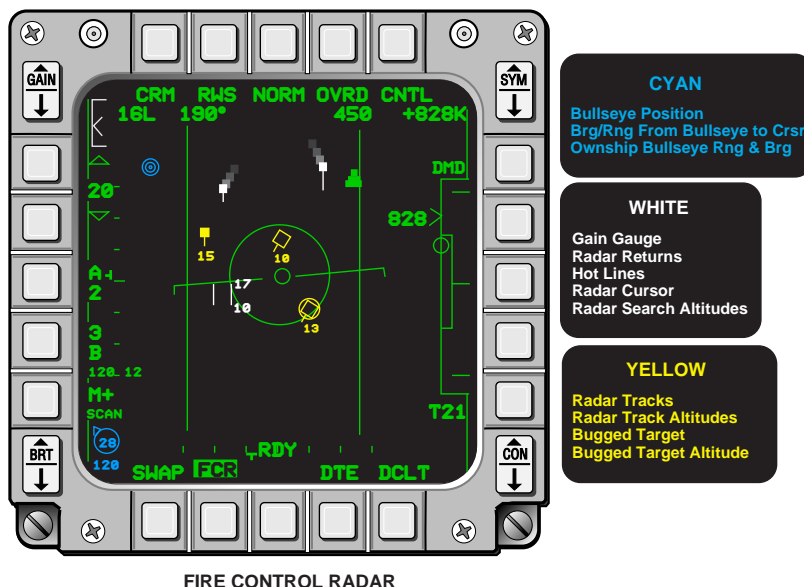

Figure 1-17 Color Symbology For FCR Format
**Color Symbologies.** Color symbology is designed primarily to accommodate the Horizontal Situation Display (HSD). Only the EUPDG symbols that appear on the HSD format are colorized. Symbols that were not colorized remain green as they appear on typical F-16 monochromatic displays. Colorized HSD symbols appearing on other MFD formats (such as the FCR) remain the same color as on the HSD format. The resulting color palette, shown in Table 1-1, consists of red, white, green, yellow, and cyan plus black for the display background. Figures 1-17 and 1-18 depict typical FCR and HSD formats with the color symbology applied.